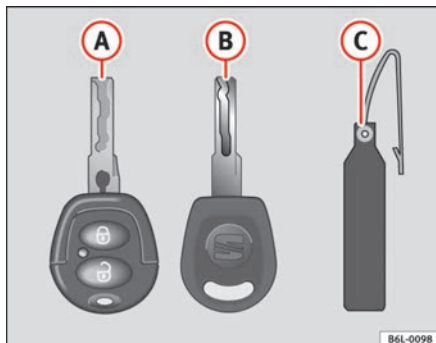

Fig. 46 Set of keys
- one remote control key ⇒ fig. 46 (A) with folding key bit*,
- one key without remote control (B),
- one key tab (C) with the key number.
Spare keys cannot be issued without the key number on the key tab ⇒ fig. 46 (B). Therefore: